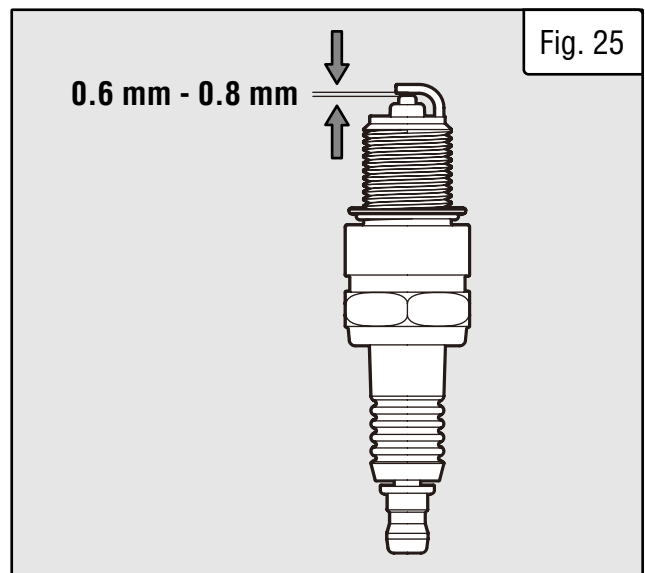

Fig. 25
5. Measure plug gap with a spark plug gap gauge. Gap should be 0.6 to 0.8 mm. Adjust gap if necessary. (Fig. 25)